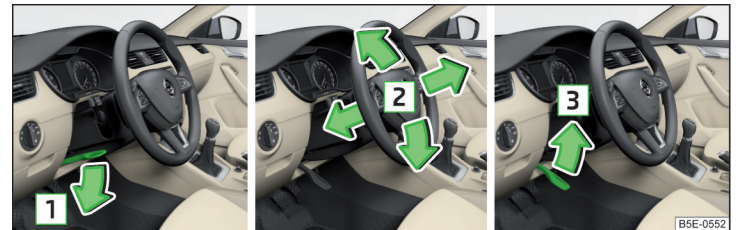

Fig. 2 Adjusting the steering wheel position
- ▶ Swivel the safety lever under the steering wheel in the direction of arrow **1** » Fig. 2.